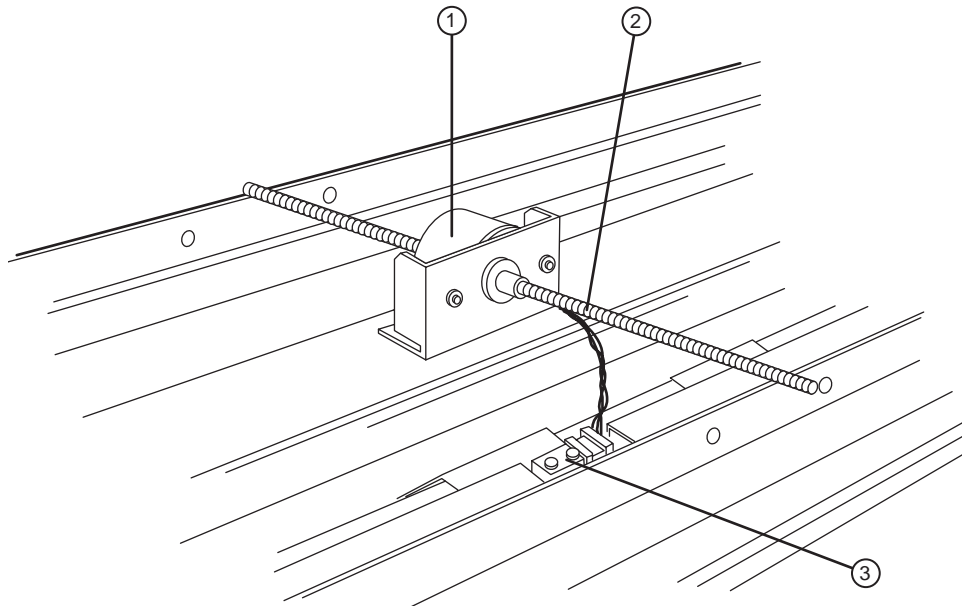

Figure 2-2 Buffer purchase sensor.
CAUTION: When replacing the sensors, make sure that the flags enter the sensors at the correct point. Refer to Figure 2-2.
2. Disconnect the connector from the sensor. Refer to Figure 2-2.
3. Remove the two (2) 1/4" hex nuts securing the sensor.